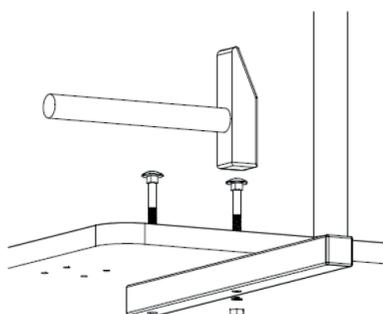

Figure 3: Attaching the handlebar
You then need to attach the handlebar (2) to the base panel (1) (see figure 3).